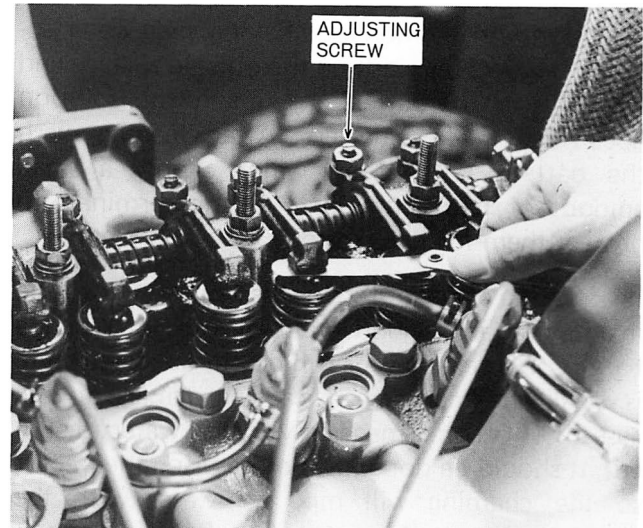

Figure 55 – Checking Valve Clearance
2. With the engine idling, check the clearance of each valve with a feeler gauge, Figure 55.